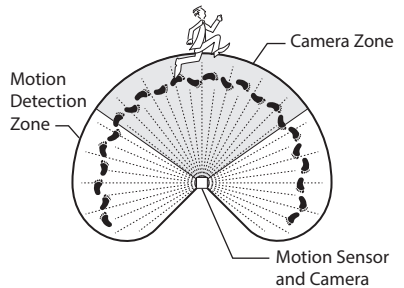

Figure 9
- If needed, gently grasp the motion sensor and move it from side to side or up and down to the best position to pick up motion and to view the desired area using the camera (see Figure 9).